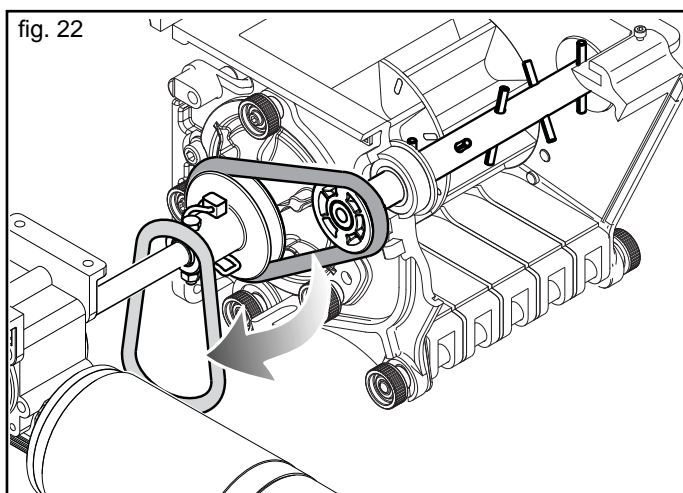

fig. 22
- To disable the agitator, lift the round belt above the edge of the drive pulley and, on the opposite side, rotate the dosing roller in the driving direction. The belt will come off (Fig. 22).